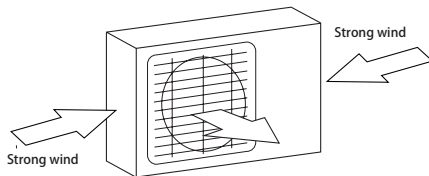

Fig. 5.1
- ❑ If the location is exposed to strong winds (for example: near a seaside), the unit must be placed against the wall to shelter it from the wind. If necessary, use an awning. (See Fig. 5.1 & 5.2)